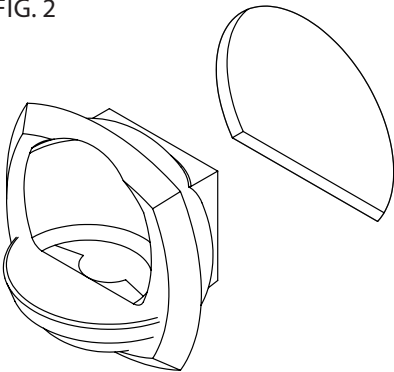

FIG. 3
4. Apply beads of silicone adhesive to the back flange of the dish, leaving room for hot melt glue. *See Figure 3.*